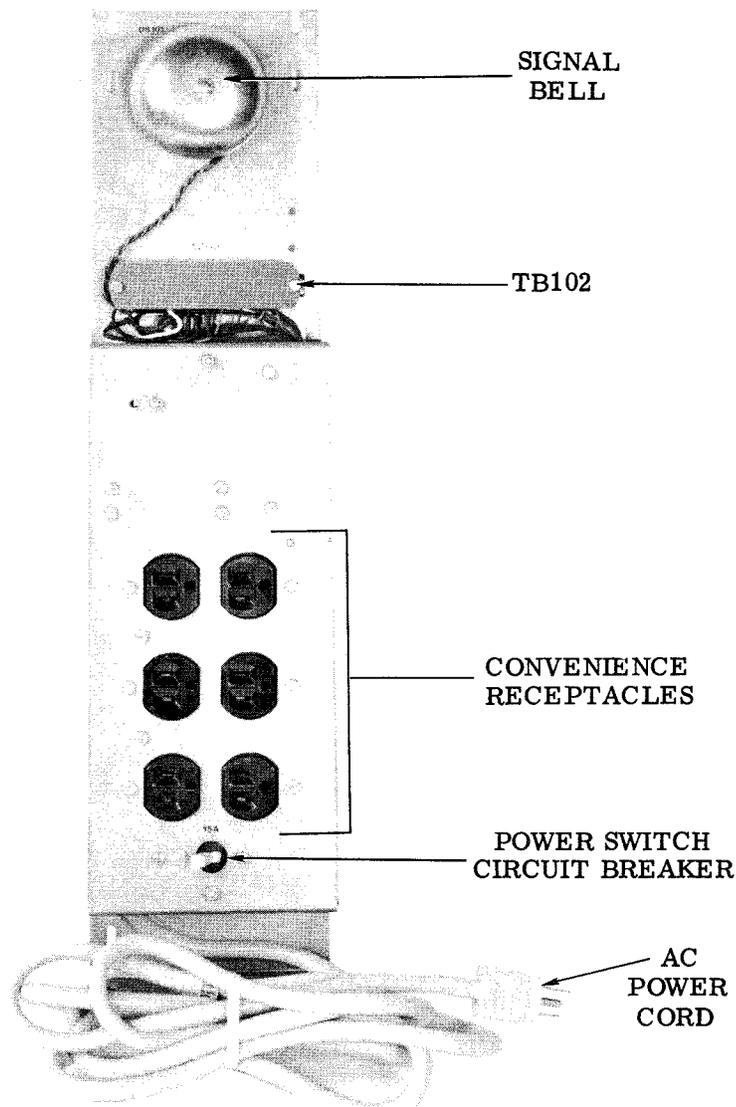
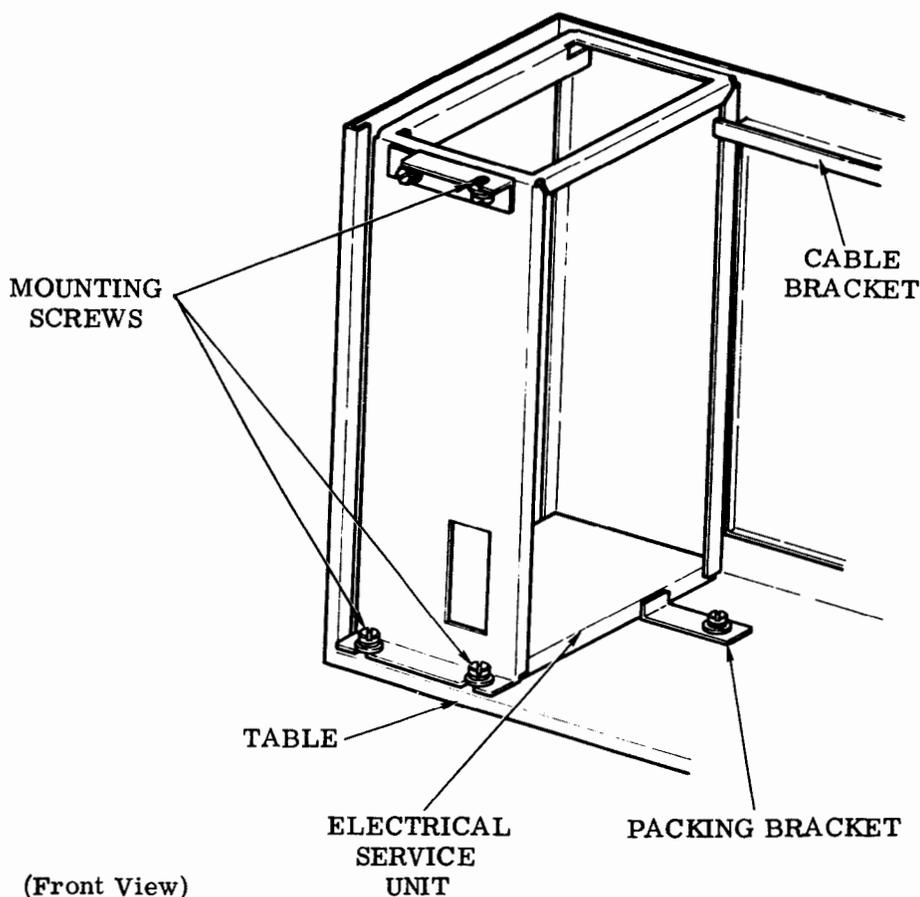

Figure 7 - 37 Utility Strip
Figure 21- Electrical Service Unit Mounted in the Table
4.26 The electrical service unit (ESU) and utility strip (Figures 7 and 20) are exposed when the front panel on the table is removed, refer to 2.04. To gain access to the circuit cards (Table A) and the answer-back unit, the electrical service unit must be removed from the table. To remove the ESU, refer to Figure 21, and proceed as follows.
- (1) Cut the plastic strapping with a pair of side cutters.
- (2) Pull out the strapping, being careful not to jar the unit.
- (3) Remove the packing material.
4.30 Code the answer-back drum as outlined in 4.32 through 4.39. Replace the electrical service unit, install the three mounting screws on the front plate, and route the cables over the bracket on the back panel (Figure 21). Route the power supply cable from the utility strip (Figure 7) through the oblong opening in the base of the table. **DO NOT CONNECT THE POWER CABLE AT THIS TIME.** Check to insure that the power cable from the electrical service unit is connected to an outlet on the utility strip.